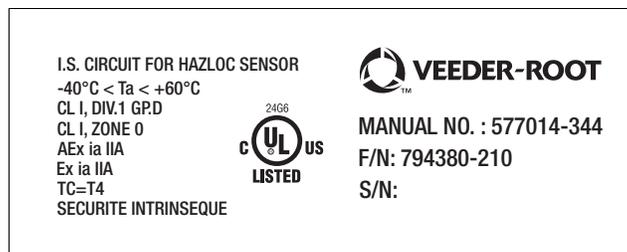

Figure 2. Product Label
1. Determine the best location for the temperature sensor in the DEF line. Figure 2 shows a typical temperature sensor installation in the DEF dispenser pan furthest from the DEF tank. Each site should be evaluated to determine the best location for the temperature sensor.